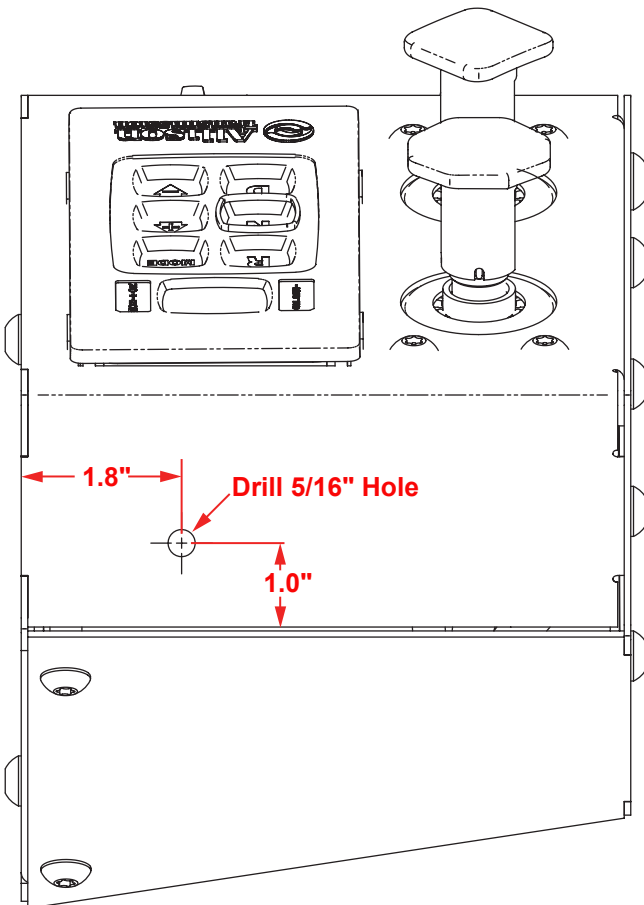

Figure 3
4. Drill a 5/16" hole into the top of the shift pad assembly, use caution to avoid passing through any deeper than required (see Figure 3).